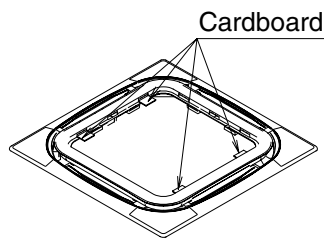

Fig. 3
- 3 Remove the transporting cardboard (in 4 locations) from the main unit. **(Refer to Fig. 3)**